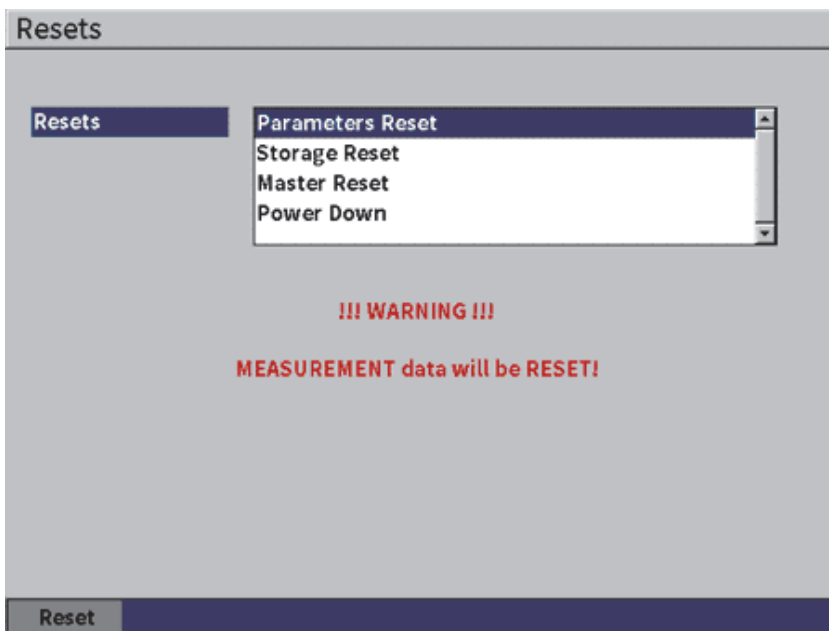

Figure 5-13 Resets setup page
This page is used to reset certain system parameters to the factory default condition (see Figure 5-13 on page 74). A warning is displayed to notify you that the data associated with the selection will be reset (erased).
- ◆ Select the **Reset** icon () to open the **Resets** setup page (see Figure 5-13 on page 74).